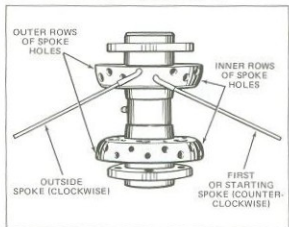

Figure 2-18. Starting Spokes in Wheel Hub - 16 Inch Wheel
ASSEMBLING SPOKES (Figures 2-18, 2-19)
2. Insert spokes in ten inner spoke holes of hub flange (see Figure 2-18).